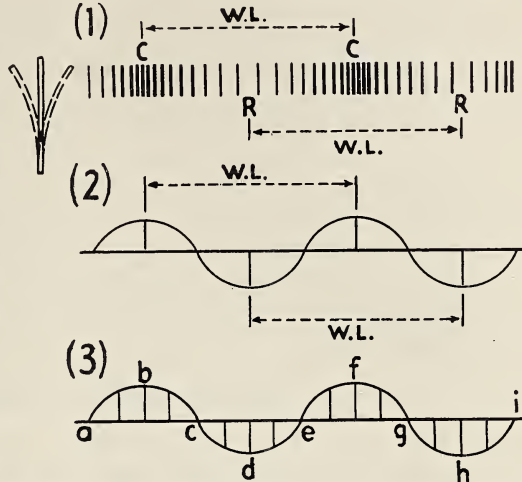

Fig. 161. Diagrams showing the important parts and characteristics of transverse and longitudinal sound waves.
as shown in Figure 161, (1). Transverse waves are represented by drawing the actual shape of the curve, shown by Figure 161, (2). By comparing Figure 161, (1), and Figure 161, (2), we see that a condensation of a longitudinal wave corresponds to the crest of a transverse wave and a rarefaction corresponds to the trough. A sound wave may, then, be shown graphically by a straight horizontal line. Then at points such as *a, b, c, d, e*, etc., Figure 161, (3), the amount of the displacement of the molecules in the longitudinal wave can be represented by the erection of perpendiculars of the proper relative length. For example, the displacement at *a, c, e, g*, and *i* is zero; that is, the density of the air is normal. At *b* the length of the perpendicular represents the density of the air above its normal density. At *d* the length of the perpendicular represents the density of the air below its normal density. By drawing a smooth curve through these points we have a graphic representation of sound.